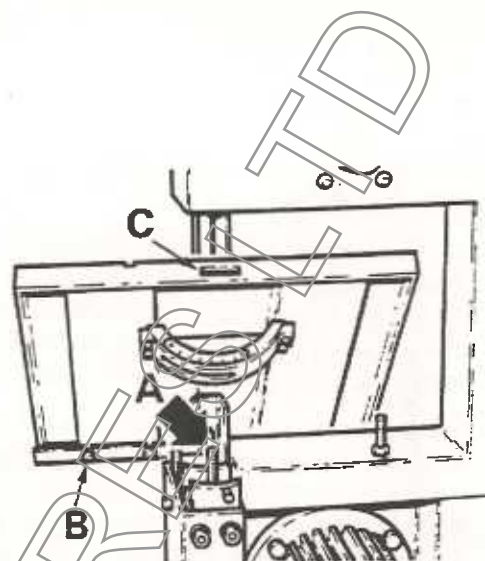

Fig.4.
4. On table locating stud 'A' (see Fig.4), remove hex. nut, std. washer and table clamp.
Re-assemble fence rail to table, and with 4 hex. screws 'B' (see Fig.4) only hand-tight, place rip fence onto rail so that fence is close to slot in table. Align rail so that fence is true to slot and tighten 4 hex. screws.
Secure depth stop to rear edge of table through slot 'C' (see Fig.4) and secure in place using coach bolt, std. washer and wing nut supplied with depth stop.